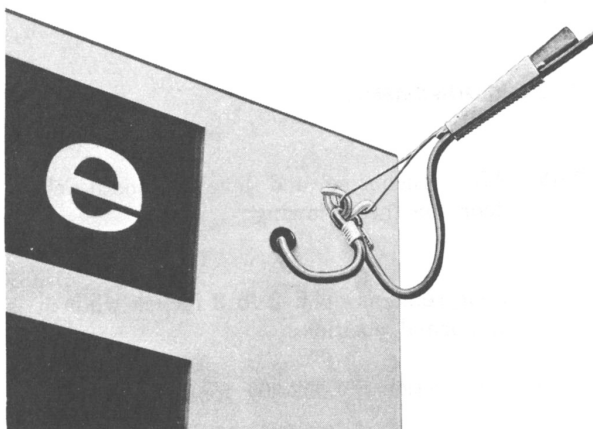
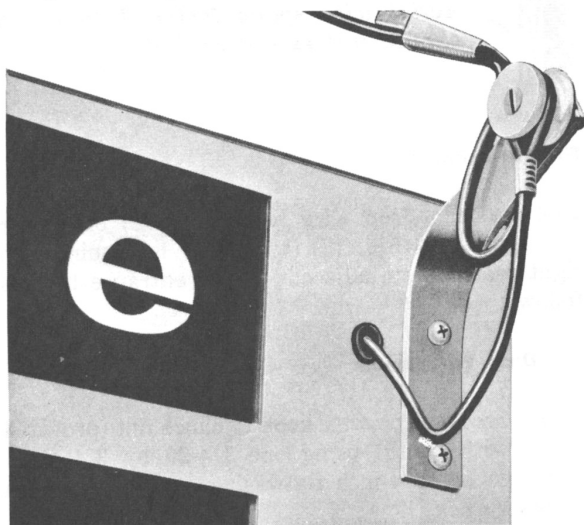

Fig. 16—Drop Wire Hook for First Attachment
Fig. 17—Corner Bracket for First Attachment
3.06 Attach drop wire hook (Fig. 16) or corner bracket (Fig. 17) (whichever is required) on right rear column adjacent to the entrance hole as follows: